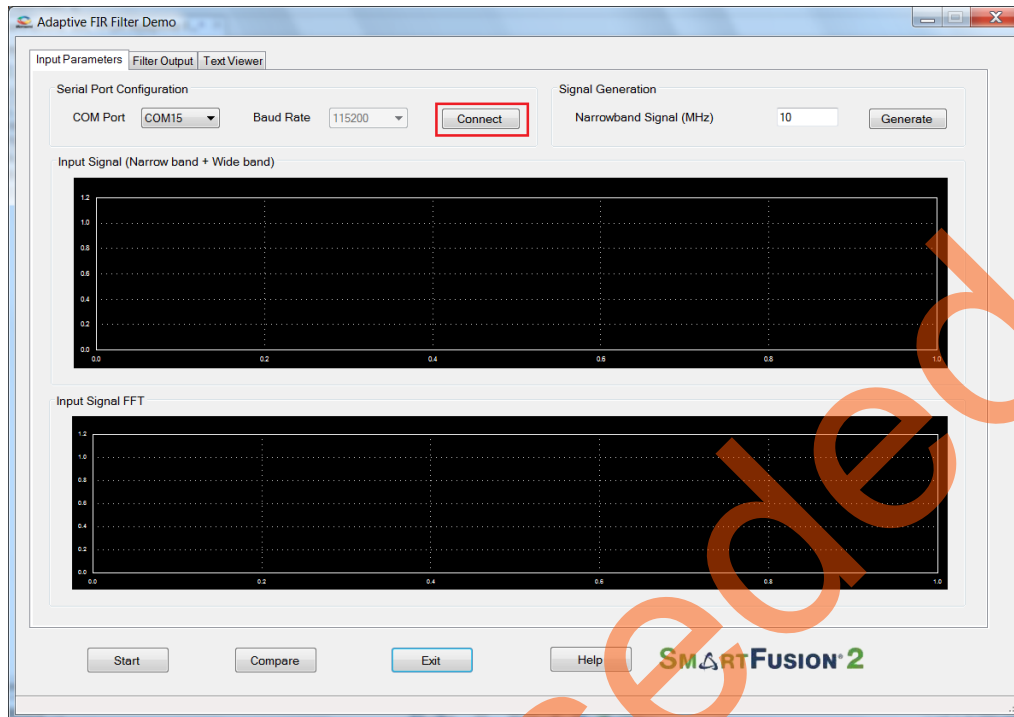

Figure 13 • Serial Port Configuration
1. Launch the adaptive FIR filter demo GUI, install and invoke the executable file provided with the design files. (\\SF2_Adaptive_FIR_Filter_Demo\\GUI\\SF2_Adaptive_FIR_Filter.exe). The Adaptive FIR Filter Demo window is displayed, refer to Figure 13 on page 18.
2. **Serial Port Configuration:** The COM port number is automatically detected and baud rate is fixed at 115200. Press **Connect**. Refer to Figure 13.